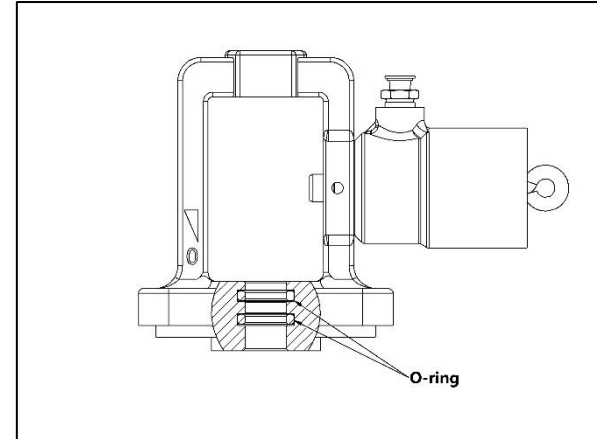

Figure 3 Replace the two O-rings inside the bonnet. Use suitable tool to reach the O-rings if needed.
8. Remove the two O-rings inside the bonnet and replace them with the two new ones (see figure 3). On smaller sized valves, use suitable tools to reach the O-rings.